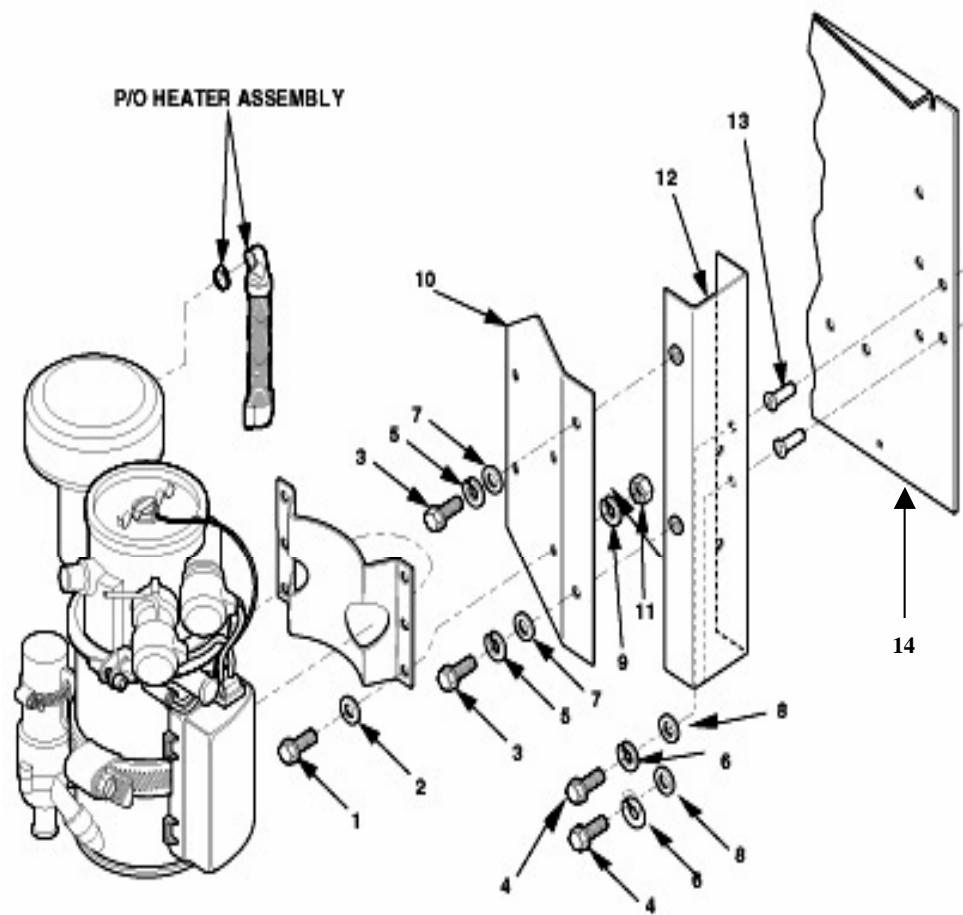

Figure 4-23. Heater Attachment Maintenance.
3. Support heater. Remove screws (1, 3, 4, Figure 4-23), washers (2, 7, and 8), nut (11), lockwashers (5, 6, and 9) and heater from heater mounting brace (10), and heater mounting brace (10) from wall mounting bracket (12) and wall mounting bracket (12) from generator house (14).
5. Install wall mounting bracket (12) with screws (4), lockwashers (6) and washers (8) to generator housing (14).
6. Install heater to heater mounting brace (10) with screws (1), washers (2), lockwashers (9) and nut (11).
7. Install heater mounting brace (10) to wall mounting bracket (12) with screws (3), lockwashers (5), and washers (7).